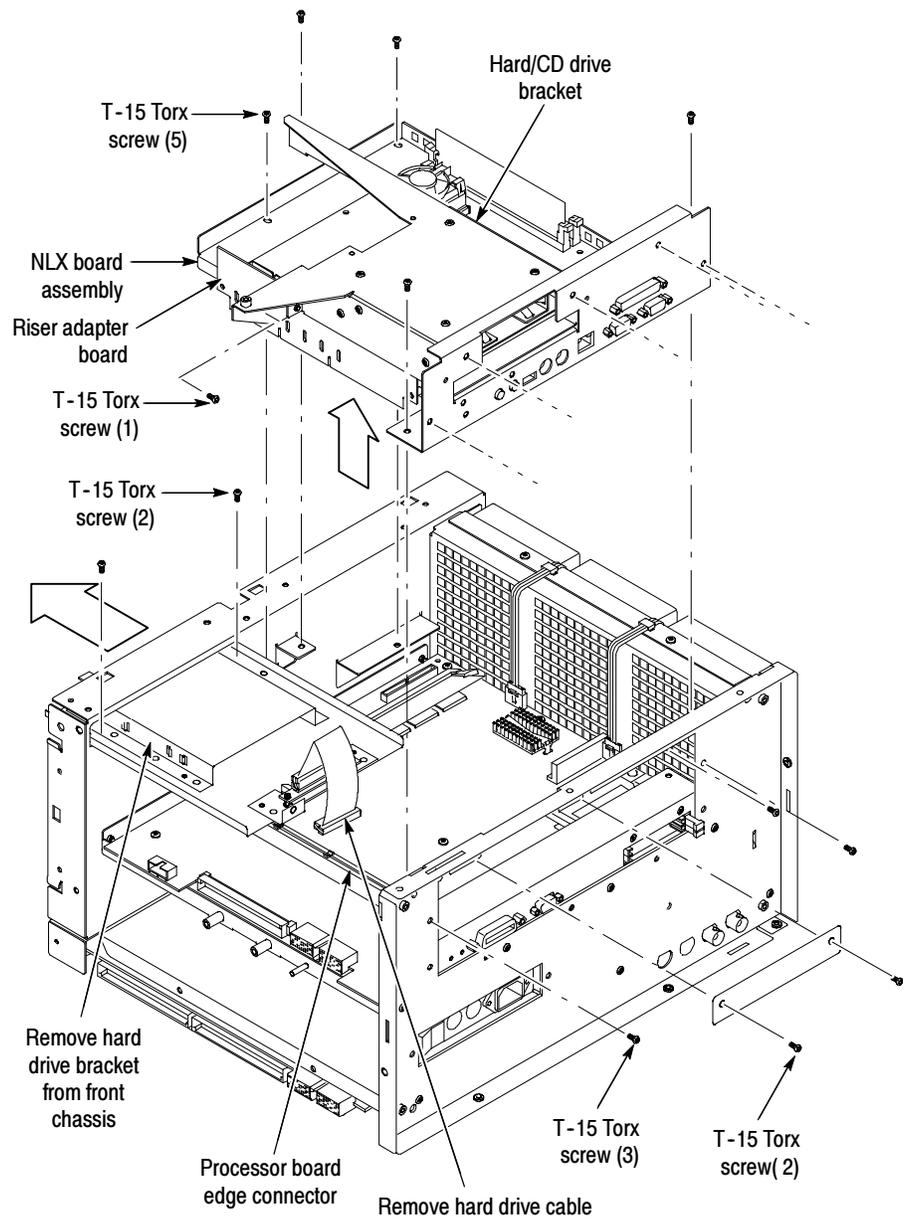

Figure 2-9: NLX assembly and hard disk drive removal
2. *Remove the Hard disk drive assembly:* Use Figure 2-9 on page 2-15 as a guide.
2. *Remove the NLX Board assembly:* See Figure 2-9 on page 2-15.